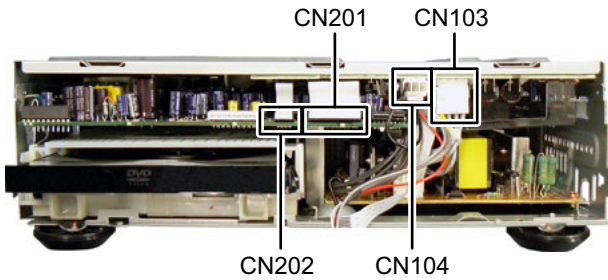

Fig.8
3.1.3 Removing the Top chassis (See Fig.8 to 10)
- (1) Disconnect the card wires from Amp board connected to connectors CN201 and CN202 of the Main board. (See Fig.8)
- (2) Disconnect the connector wire from Power supply unit connected to connector CN103 of the Amp board. (See Fig.8)
- (3) Disconnect the connector wire from Main board connected to connector CN104 of the Amp board. (See Fig.8)